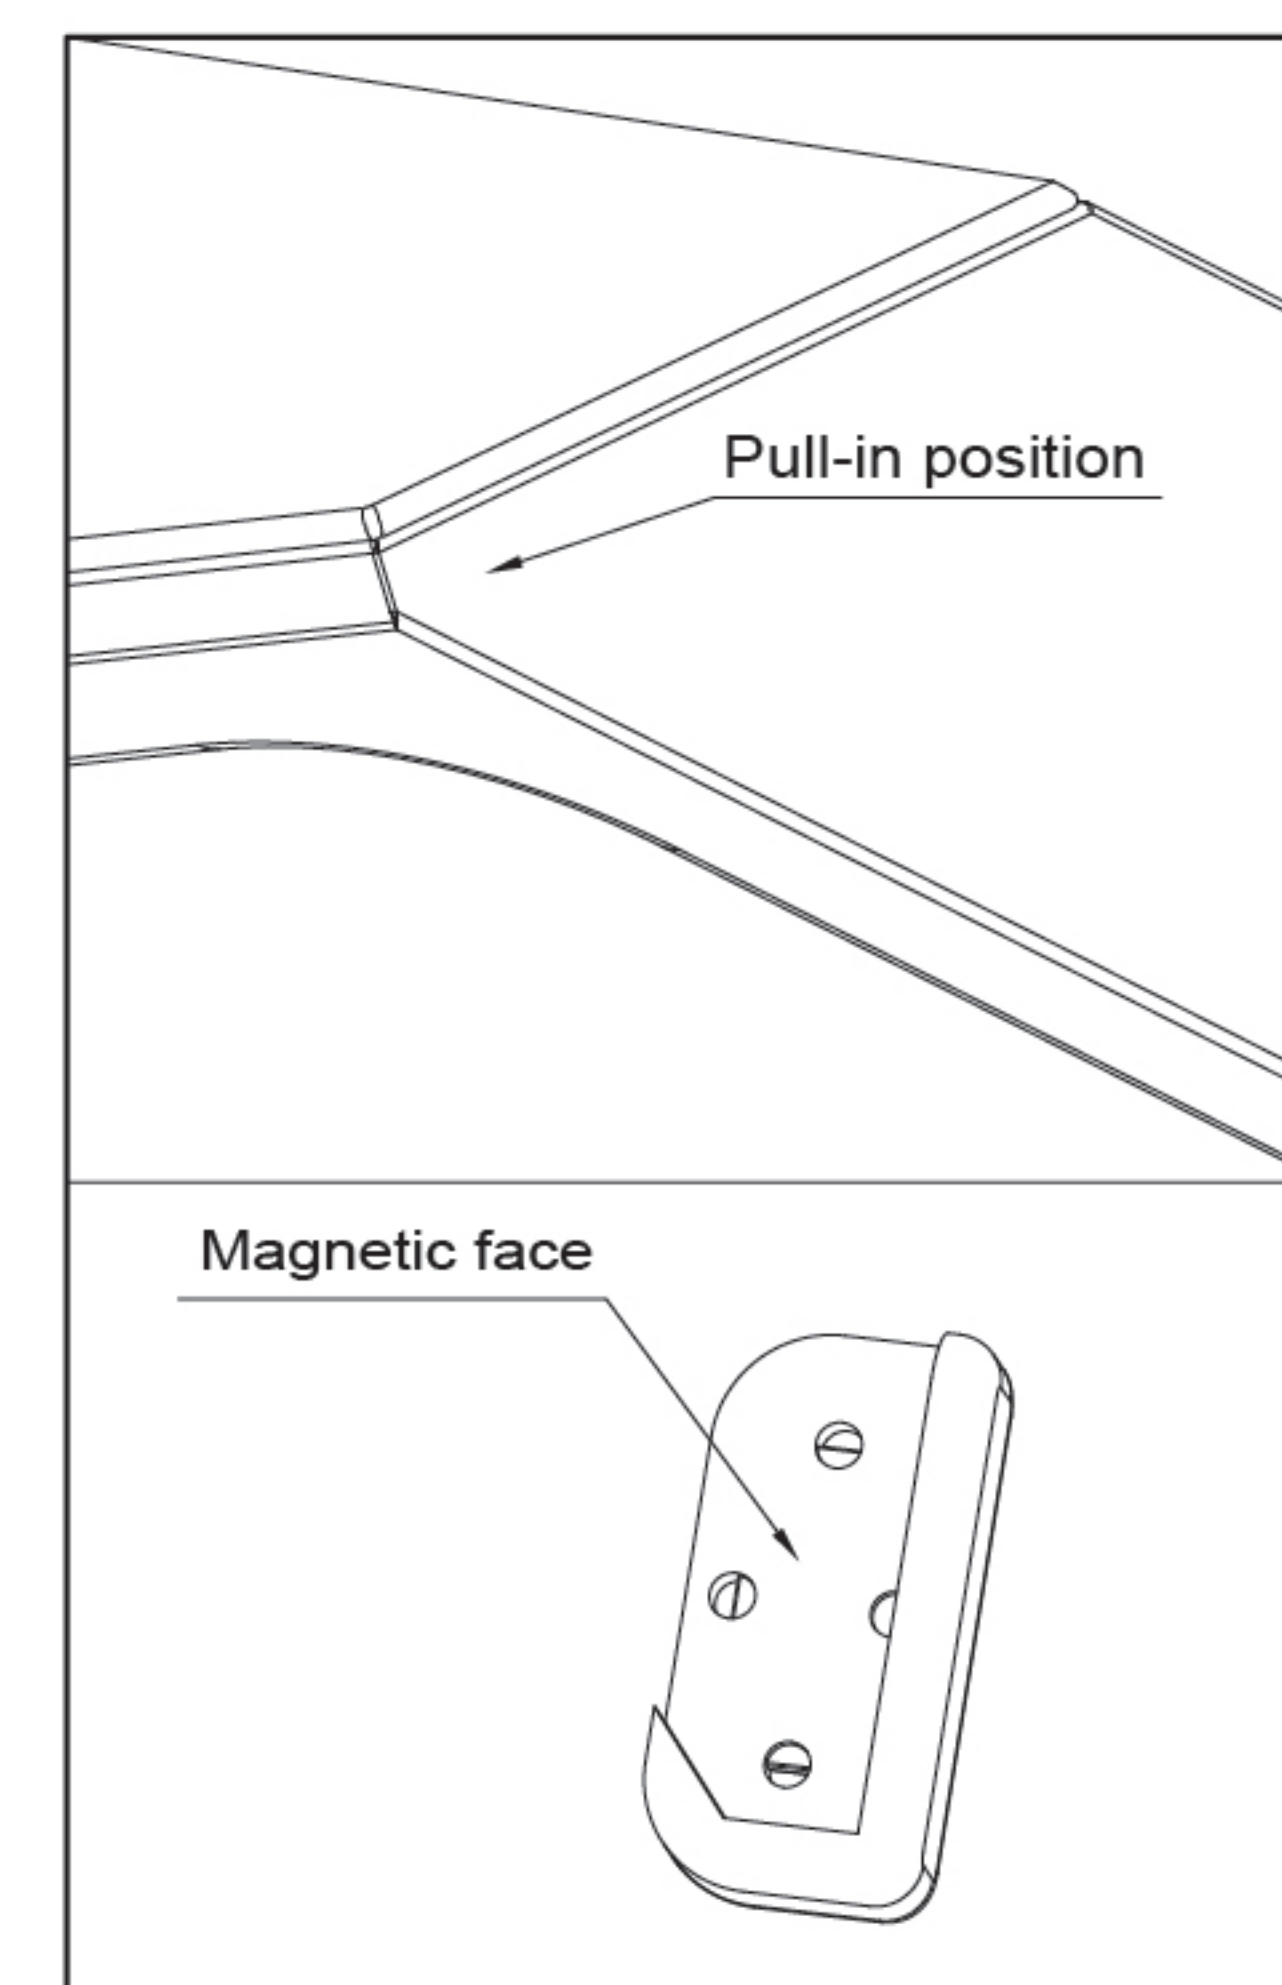
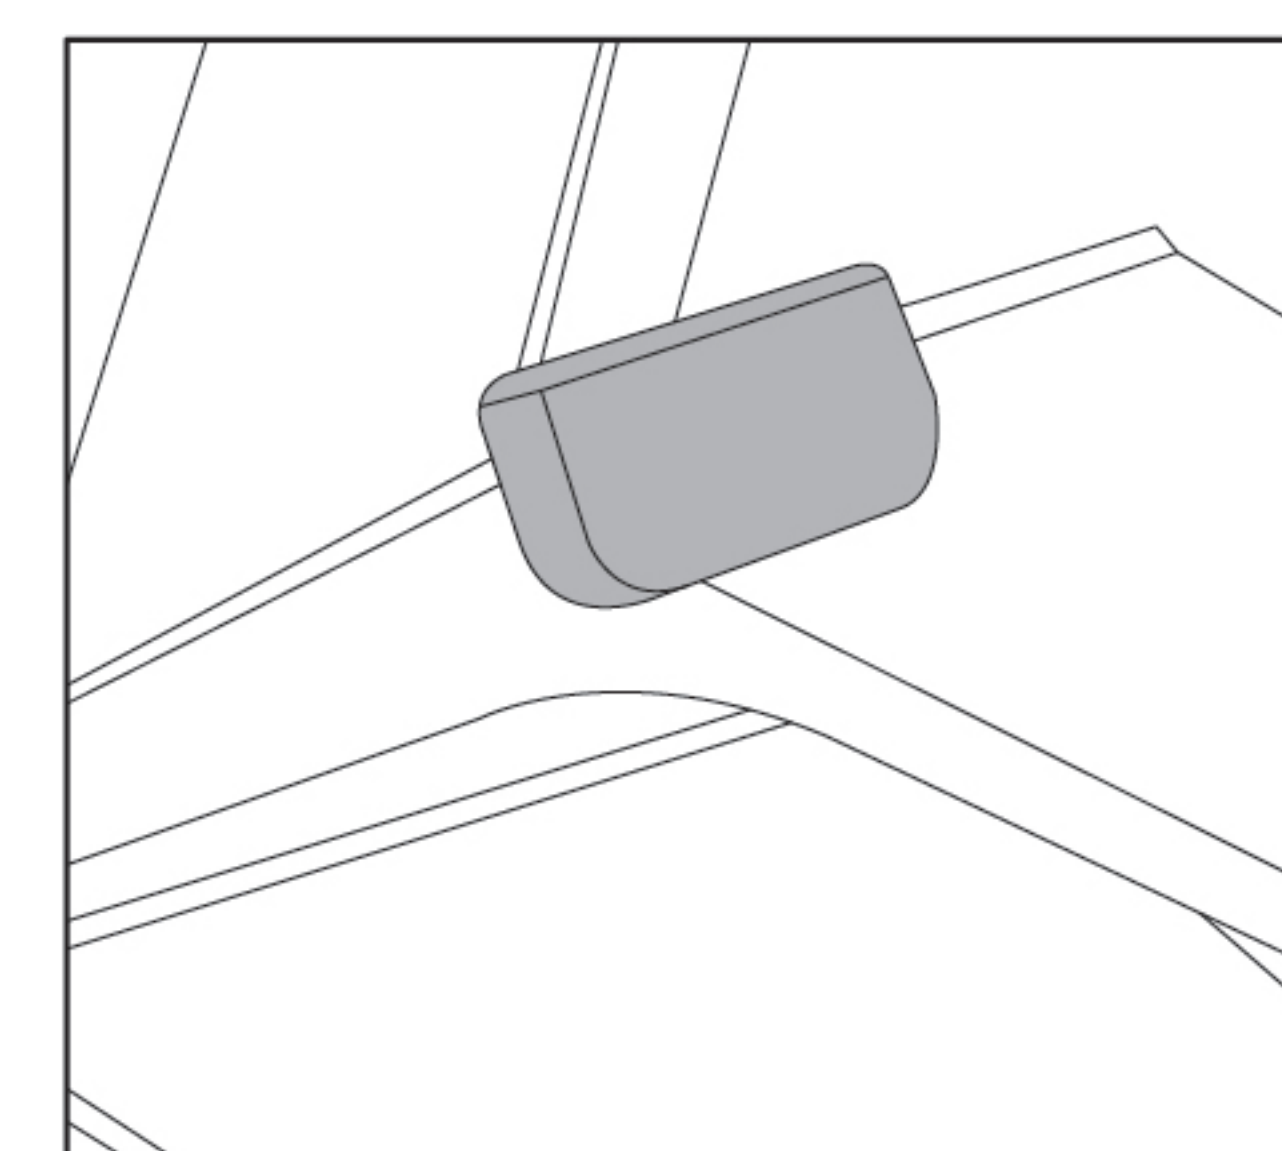

Figure 2
Figure 3
- Installation of anti-collision parts: determine the magnetic face of anti-collision part and the product pull-in position (Figure 2), pull in the anti-collision part at the corner of the extractor hood, and then adjust it properly (Figure 3).